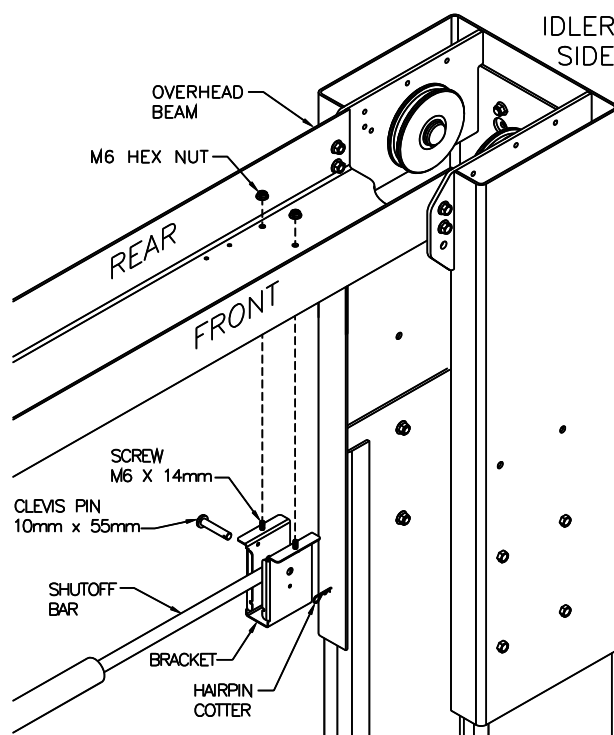

Fig. 10 – Overhead Bracket Idler Side
30. Repeat for Idler Side – Attach the Idler Bracket to the rear set of holes on the Idler Side of the Overhead Beam using the hardware already attached to the bracket, **Fig. 10**. **Note the orientation of the Idler Bracket. The narrow slot needs to be facing towards the Power Column.**